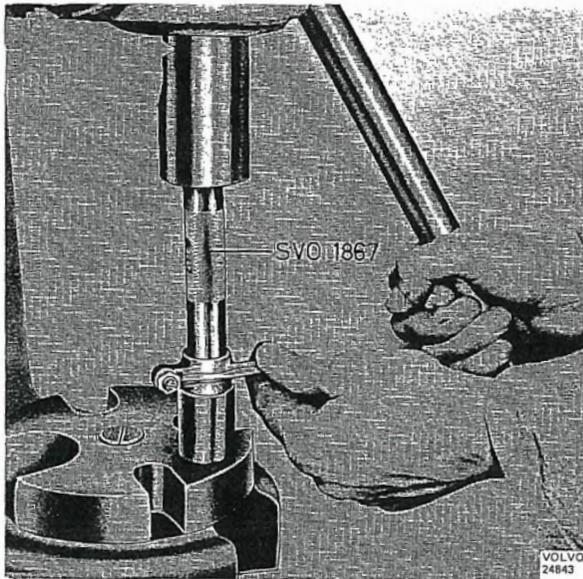

Fig. 2-25. Replacing bush in rocker arm
1. If wear amounts to 0.1 mm (0.004"), replace the rocker arm bush. Use tool 1867 for pressing the bush out and in, see Fig. 2-25. Then ream the bush to an accurate fit on the shaft using a suitable reamer. The hole in the bush should coincide with the hole in the rocker arm.